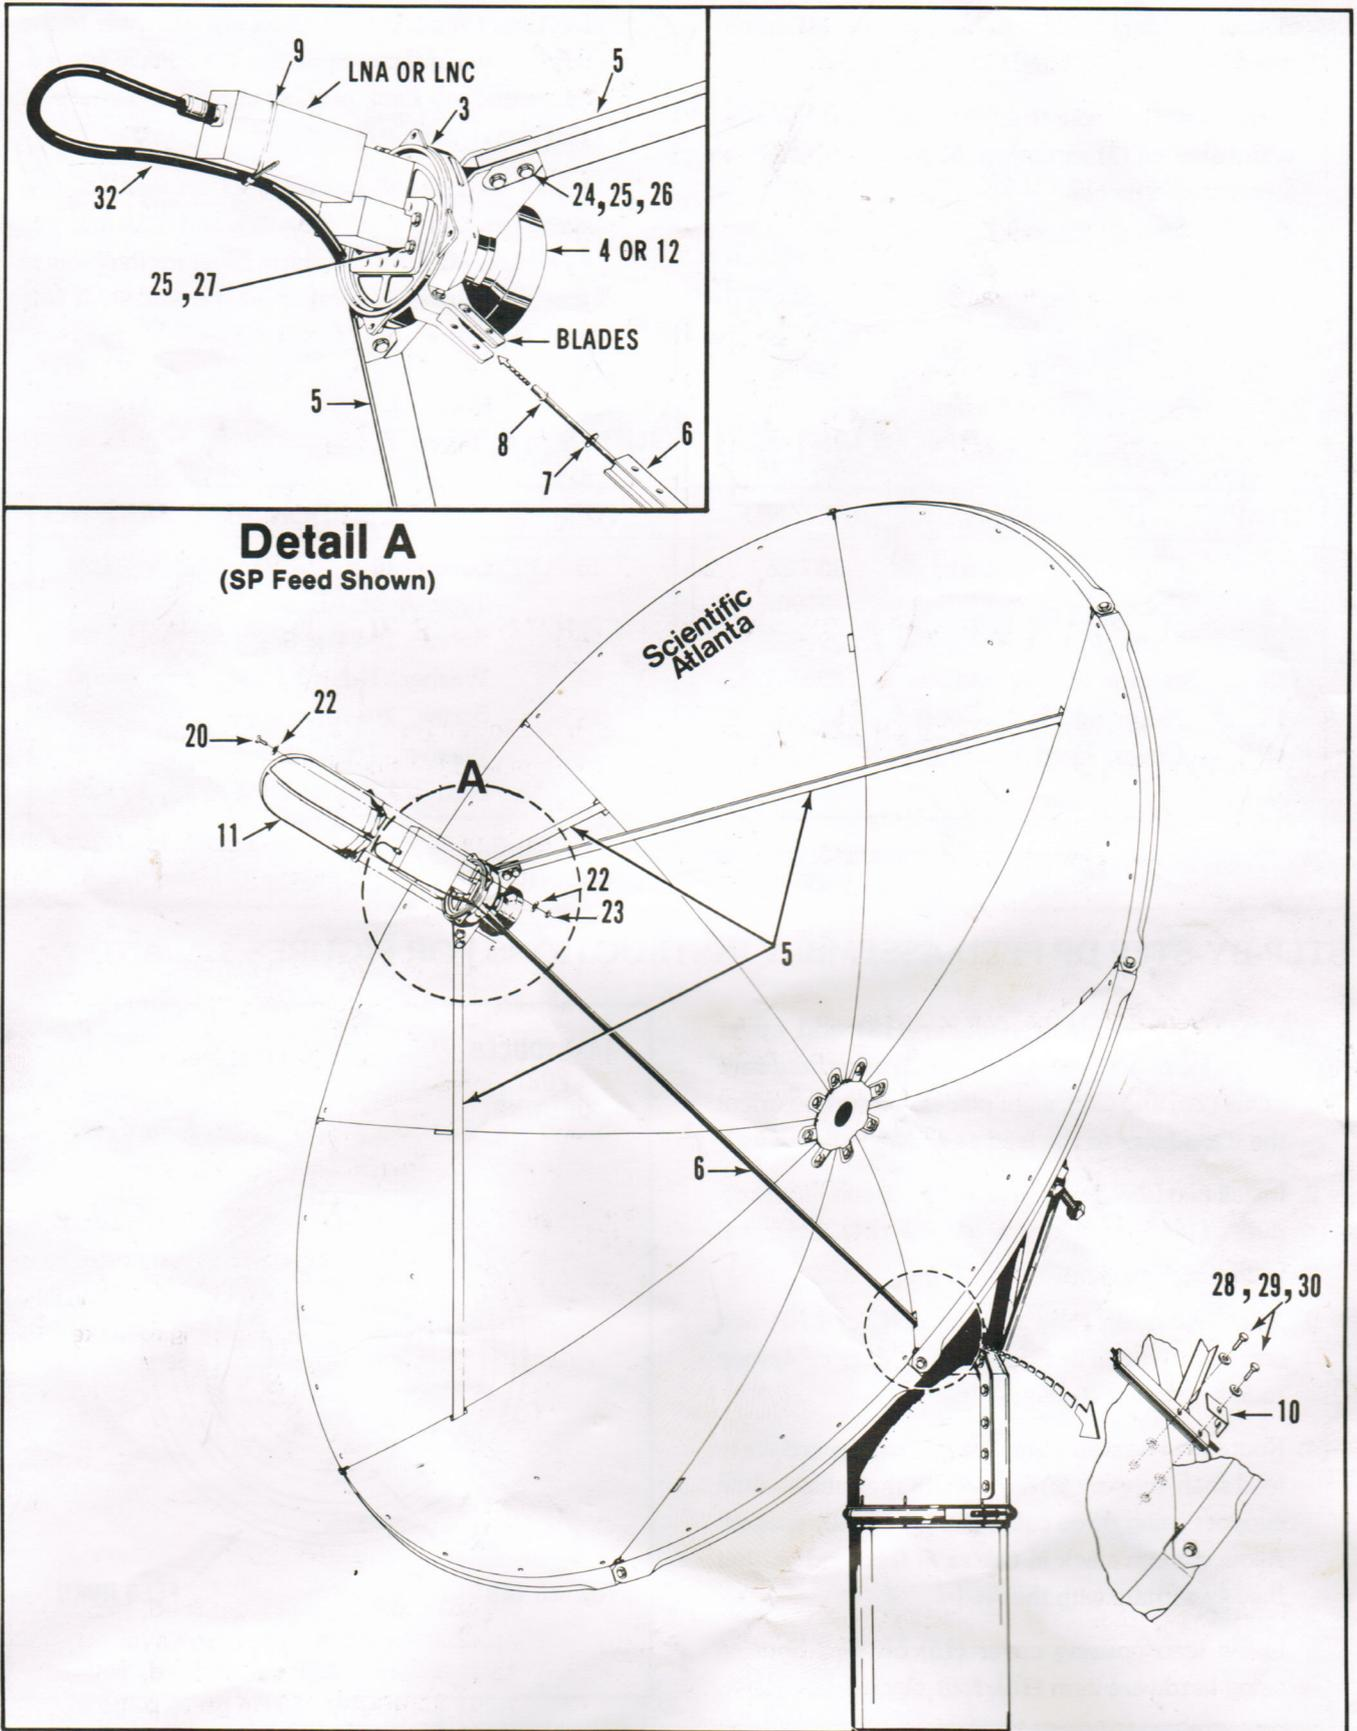

Figure 4. Installation of Feed, Feed Shaft Support, and Cover
5. Manually rotate feed horn **(4 or 12)** within housing to ensure smooth operation with no binding. Set this assembly aside until called for in figure 4 instructions.
7. Insert one end of the coaxial cable **(32)** through the slot in the reflector panel at the lower portion of the dish where feed shaft support **(6)** will be installed. This cable will be routed and connected to the LNA/LNC later in figure 4 instructions.
## PARTS LIST FOR FIGURE 4
### STEP-BY-STEP ASSEMBLY INSTRUCTIONS FOR FIGURE 4.
1. Attach assembled feed housing (3) to feed supports (5) as follows:
- a. Locate the hole between the pair of feed housing blades that allows access to the feed shaft gear. Position this pair of blades toward the lower right quadrant of the reflector. (Feed shaft support (6) will be attached here later.)
- b. Place one of the other pair of blades down over a corresponding feed support (5). Then loosely bolt this pair of blades to the feed support using hardware items (24), (25), and (26).
- c. Loosely bolt the other two feed supports (5) to the corresponding blades of the feed housing.
2. Slide shaft retainer (7) onto feed rotation shaft (8). Then insert shaft into feed shaft support (6).
3. Insert bottom end of feed shaft support (6) through slot in reflector panel at lower right quadrant of dish, as indicated in figure 4. The coaxial cable should be on the open or grooved side of the feed shaft support.